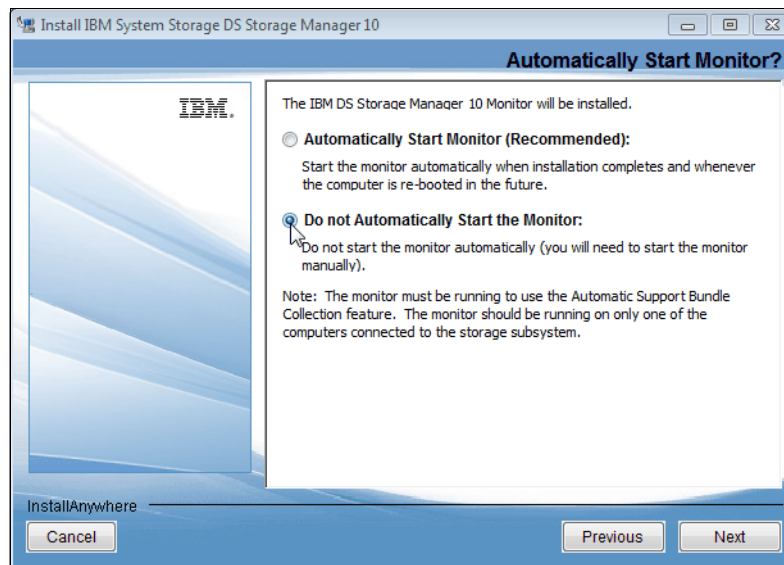

Figure 2-4 Change to Do Not Automatically Start the Monitor
4. Select **Do not Automatically Start the Monitor** as seen in Figure 2-4. Click **Next**.